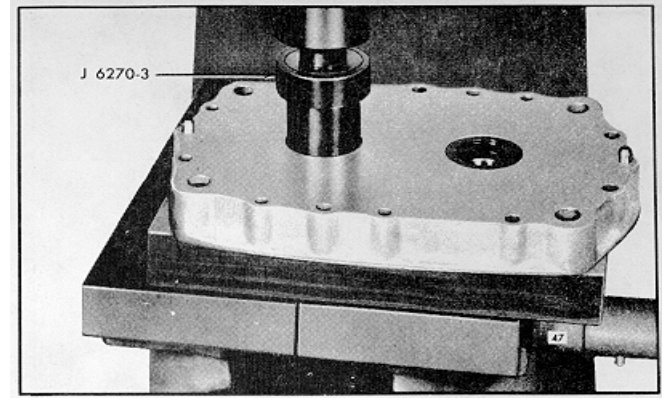

Fig. 8 - Removing Oil Seal (or Seal Ring Collar) and Bearing from End Plate
- i. Refer to Fig. 8 and support the outer face of the blower end plate on wood blocks on the bed of an arbor press.
- j. Place the long end of the oil seal remover and installer J 6270-3 down through the oil seal ring collar and into the bearing, with NW the opposite end of the remover under the ram of the press (Fig. 8). Then, press the bearing and oil seal ring collar out of the end plate.